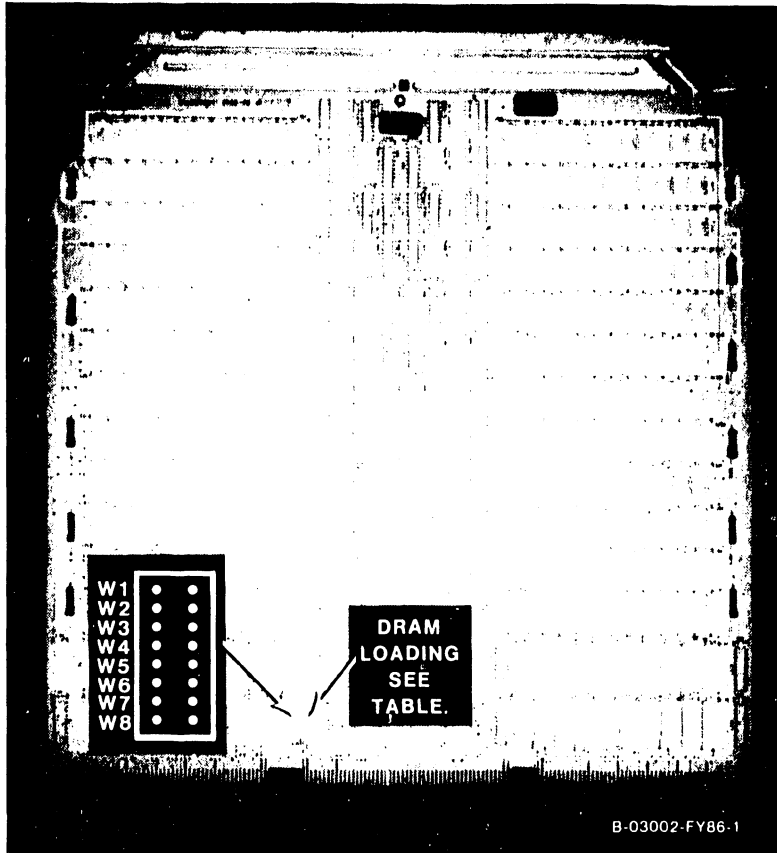

Figure 7-20. 210-8703 Main Memory
1. Remove the Main Memory board(s) (figure 7-20) from memory slots #0 through #3 as described in paragraph 7.2.4.1.